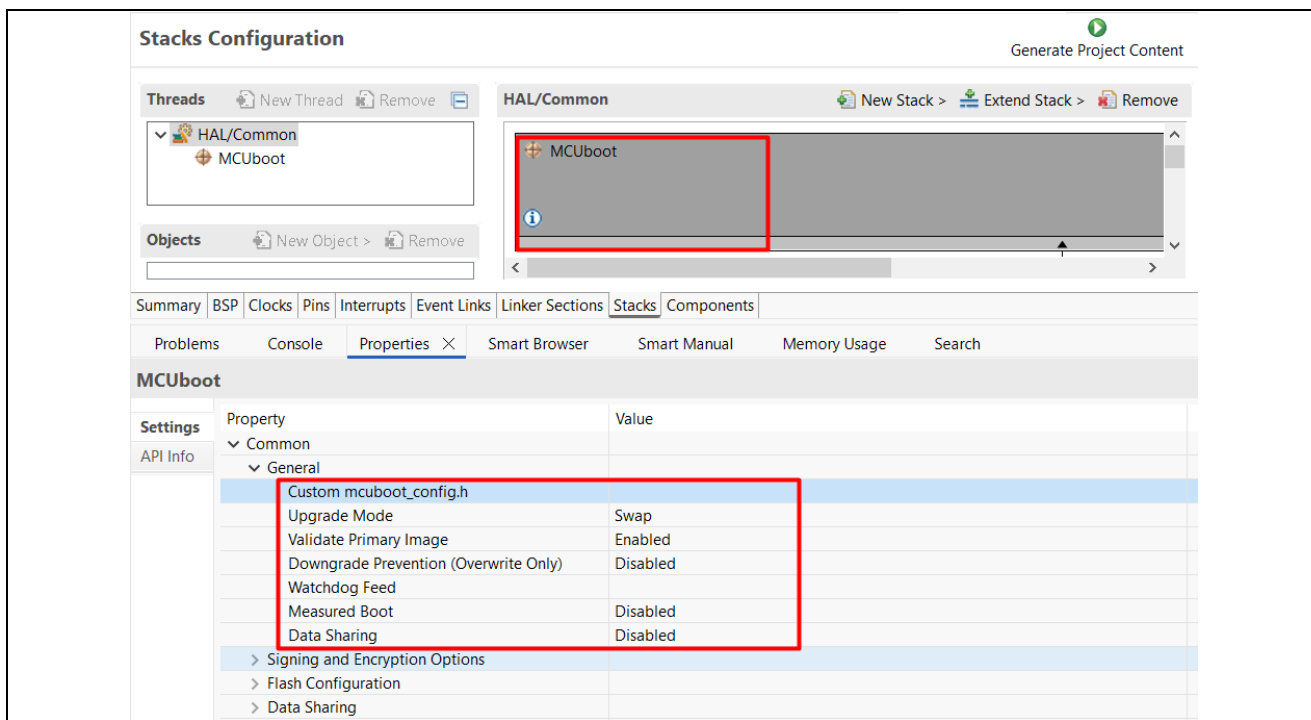

Figure 17. General Properties for MCUboot with Swap Upgrade Mode
- For project `ra_mcuboot_ra2e1_swap_mode` update the following properties in Figure 17: